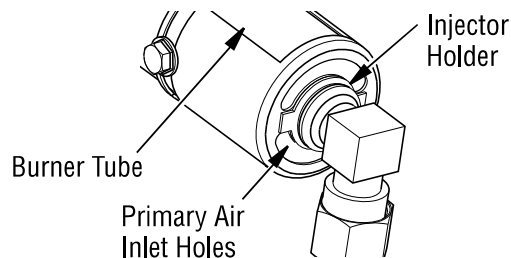

Figure 73 - Injector Holder On Outlet Burner Tube
2. Inspect burner, pilot and primary air inlet holes on injector holder for dust and dirt (*see Figure 73*).